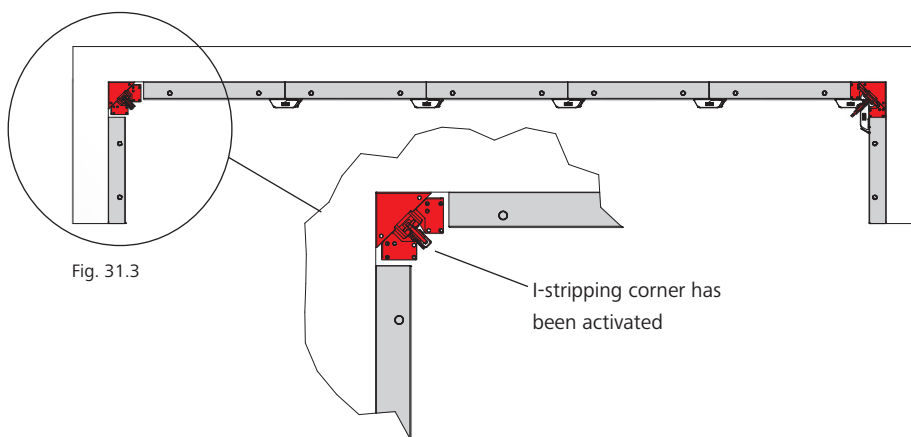

Fig. 31.3
2. Activate the Imperial stripping corner (Fig. 31.3).